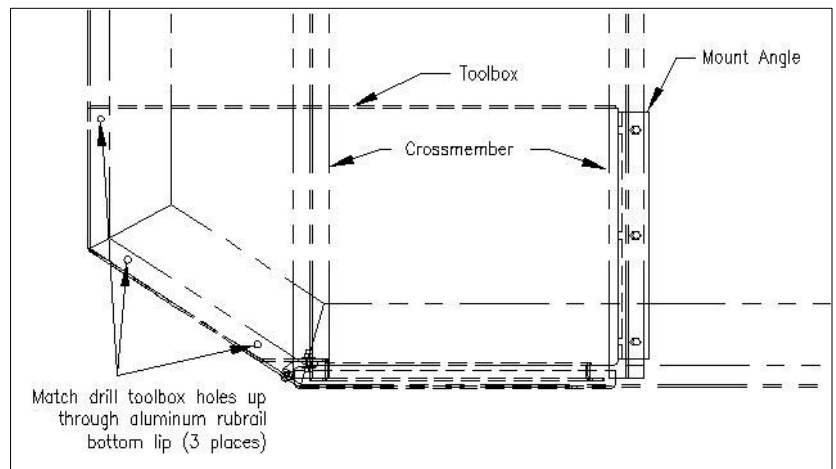

Figure 6 - Top View
3. With toolbox in proper location, use a marker to transfer 3 holes in the top of the toolbox to the aluminum rubrail bottom lip as shown in figure 6. Lower toolbox and drill $\frac{25}{64}$ " holes. Lift toolbox back in place and install and tighten hardware.